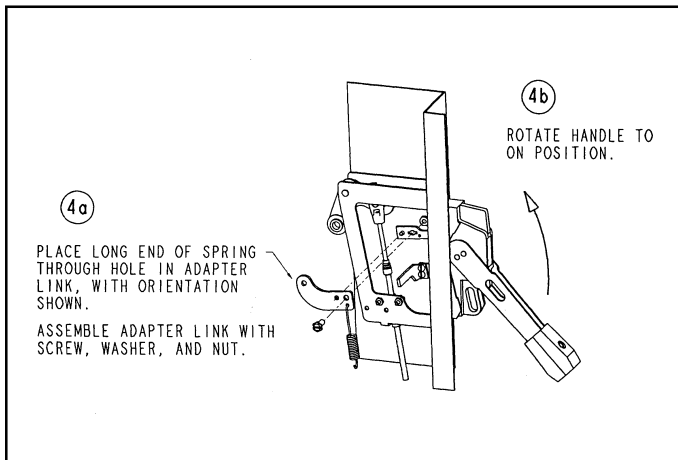

Fig. 1-4 Assembly of Spring and Adapter Link to Actuator Link
4. Connect the long end of the spring through the adaptor link. See Fig. 1-4 for spring orientation. Then attach adapter link to the actuator link using the .250-20 hex head screw.